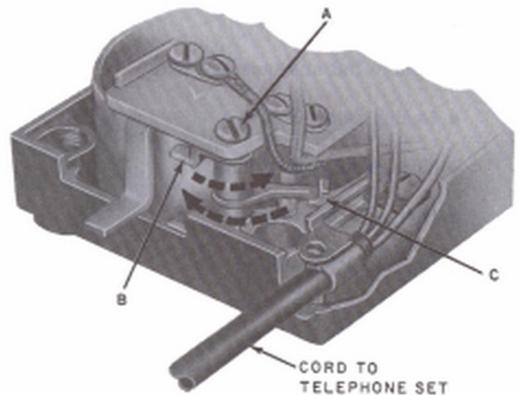

Fig. 4—End View of E1C Ringer
3.04 When the inside wire enters the ringer from the bottom or back, the mounting cord from the telephone set may be brought in from either end of ringer. The E1-type ringers have a stayhook holder on the left side which can be moved to the right side, if desired. Secure telephone set cord to ringer as shown in Fig. 4.
- (1) Loosen screw A (Fig. 4).
- (2) Move stop B (Fig. 4) to right.
- (3) Move volume control to off.
- (4) Move latch C (Fig. 4) to the left so that it falls in place over the volume-control lever. This will lock ringer in off position.